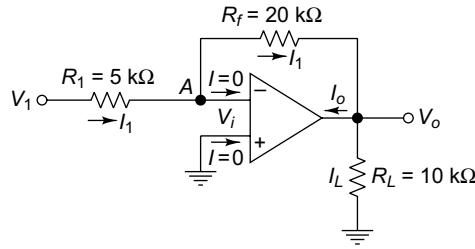

Fig. 5.3 Circuit of Ex. 5.2
5.2 An inverting amplifier is shown in Fig. 5.3. Determine (a) I_1 (b) V_o (c) I_L (d) I_o